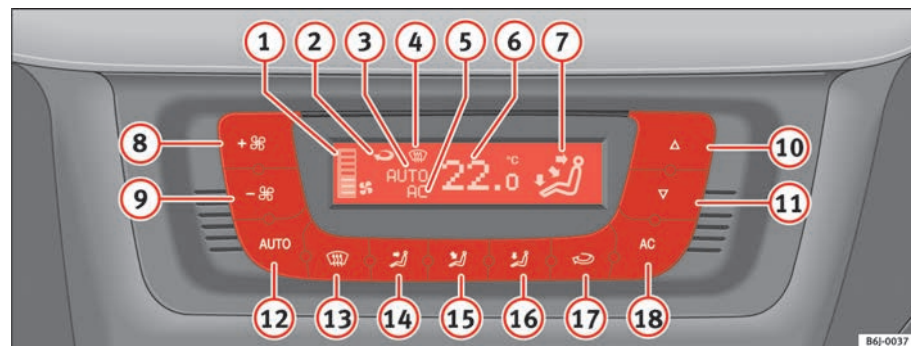

Fig. 92 Climatronic controls on the instrument panel
- Turn the temperature selector $\Rightarrow$ page 124, fig. 92 ⑩ to adjust the desired temperature.
- ① Fan level indicator.
- ② Air recirculation display:
- ③ Display **AUTO** (Automatic operation)
- ④ Demisting indicator
- ⑤ AC indicator (Cooling connected)
- ⑥ Interior temperature indicator selected
- ⑦ Air flow direction indicator
- ⑧ Fan speed increase
- ⑨ Fan speed decrease
- Press the button **AUTO**. The indication $\Rightarrow$ page 124, fig. 92 ⑦ is visible.
- Press one of the buttons ⇒ page 124, fig. 92  to  or press the blower control  and  down. The indicator  is switched off.
The blower can be adjusted with buttons  and  ⇒ page 124, fig. 92. If the blower is off (level  is not shown on the screen) and button  is kept pressed down, the Climatronic switches off. Then **OFF** is displayed on the screen.
- Press the button  to switch air recirculation mode on or off. This is ON if the symbol  ⇒ page 124, fig. 92 is displayed on the screen.